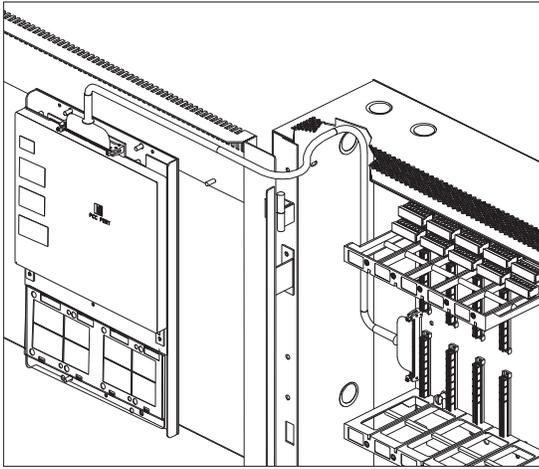

Figure 5
A 40 inch long 60 wire cable, P/N 555-133743, connects the PMI-3 to the CC-5. The CC-5 is located in the back of the enclosure on the left hand side. Connect one end of the cable to J2 on the PMI-3. J2 is marked with "CC-5" on the PMI-3 printed circuit board. Connect the other end of the cable to P1 on the CC-5. (Refer to Figure 5.)
- d) Re-attach the 60-pin cable to the connector at the top of the PMI-3 (see Figures 5 and 6) as well as any other original connections to the PMI.